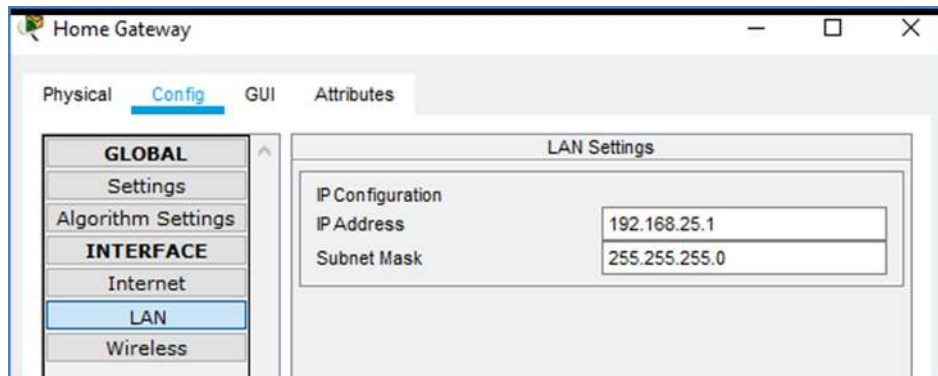

Figure 7.7: Config Tab of the Home Gateway (LAN Settings)
- In the **Config** tab, click **LAN** to see the IP address settings (Figure 7.7). This section may show the gateway's default IP address or subnet.